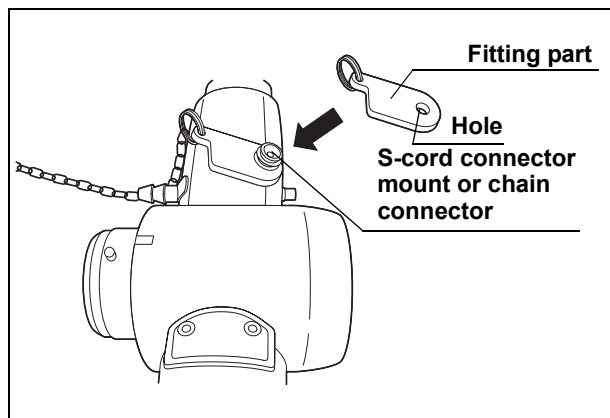

Figure 2.3
5. Place the hole on the fitting over the endoscope's S-cord connector mount or the chain connector of the GIF-N180 (see Figure 2.3).